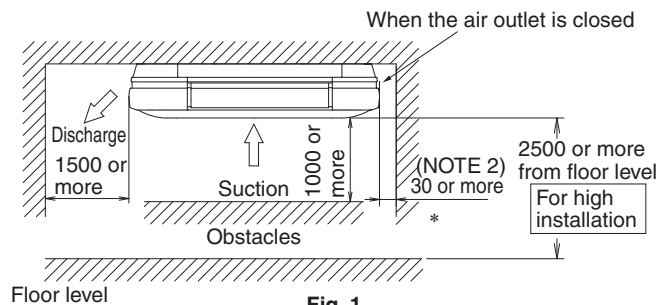
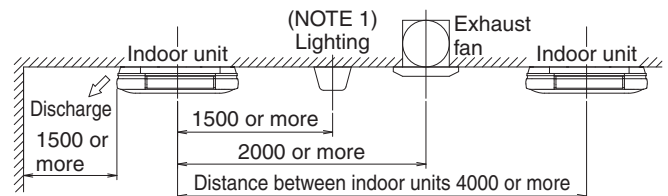

Fig. 1
Fig. 2
- (1) Select the installation location that meets the following conditions and get approval of the customer.
- Where a space sufficient for installation and service can be ensured. (Refer to Fig. 1 and Fig. 2)